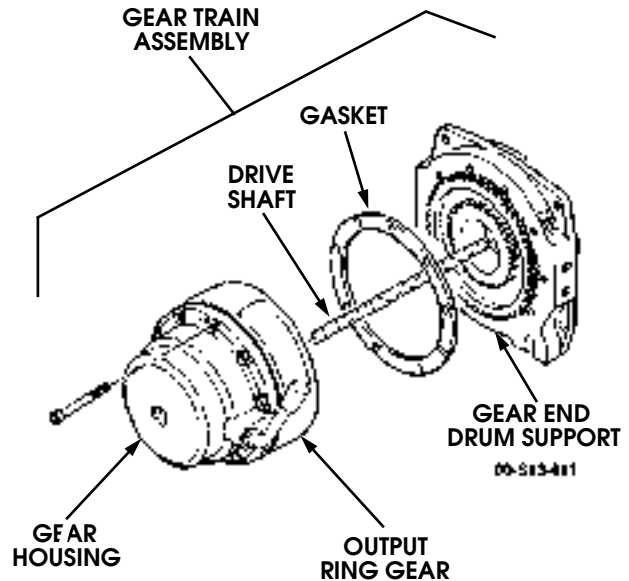

Figure 13-17: Gear Train Assembly
11. Install gasket on output ring gear (Figure 13-17).
15. Install driveshaft in gear train assembly (Figure 13-17).